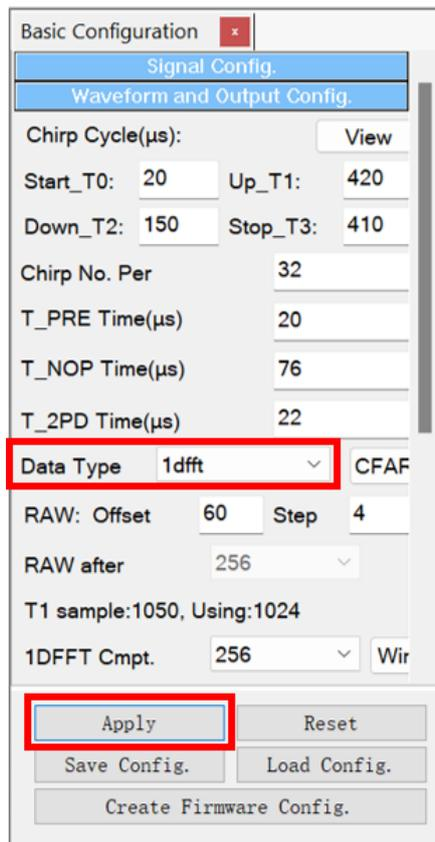

Figure 5-2 Configure the Data Type in the Waveform and Output Config. tab
Step 3: Configure the evaluation board; Take outputting 1DFFT waveform as an example, unfold **Waveform and Output Data Config.** in *Basic Configuration* by clicking on the tab, and select 1DFFT for *Data Type*; Click the **Apply** button to let the configuration take effect, as shown in Figure 5-2;